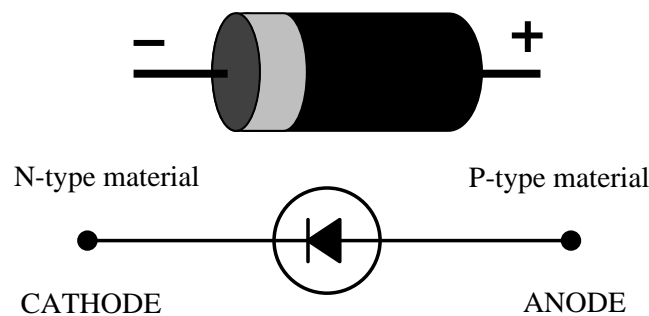

Figure 6-1: Circuit symbol for a semiconductor diode
1. A **junction diode** shown in Figure 6-1 has unidirectional current characteristics; that is, it will permit current to flow through in one direction (when forward-biased), but not the other (reverse-biased). Connection with the negative battery terminal to the N-type and the positive battery terminal to the P-type silicon is called **forward bias**, and results in a flow of current. Connection with the negative battery terminal to the P-type and the positive battery terminal to the N-type is called **reverse bias**. The “**turn-on**” or